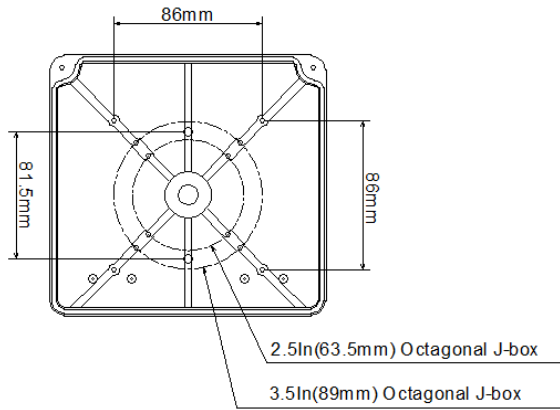

Figure 2
Step2: The Mounting diagram to the wall or outlet in this instruction may be used as drill templates see Figure 2.